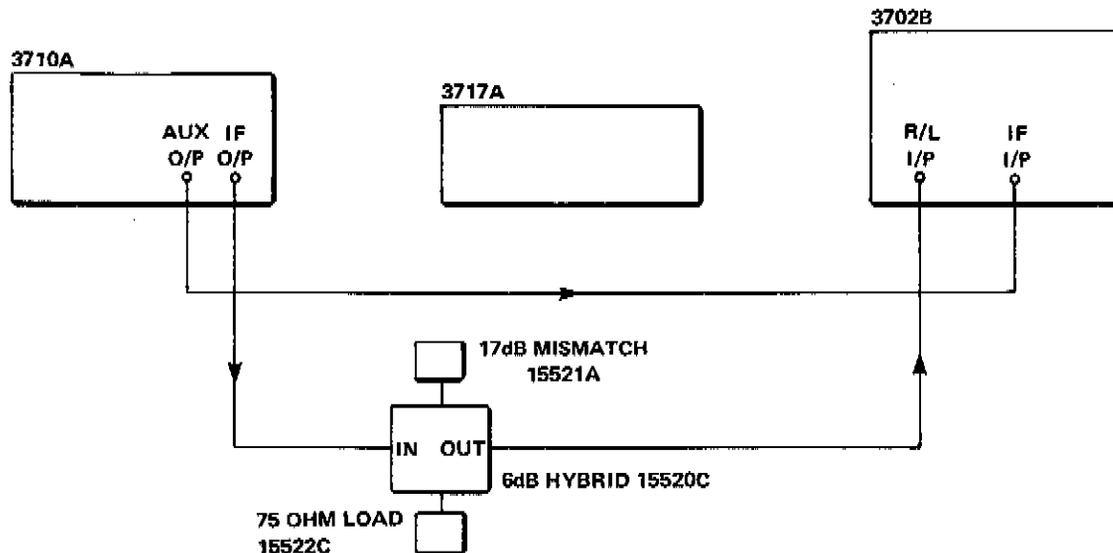

Figure 5-26 Return Loss Setup
22. Connect the equipment as shown in Figure 5-26. Set the controls as follows: